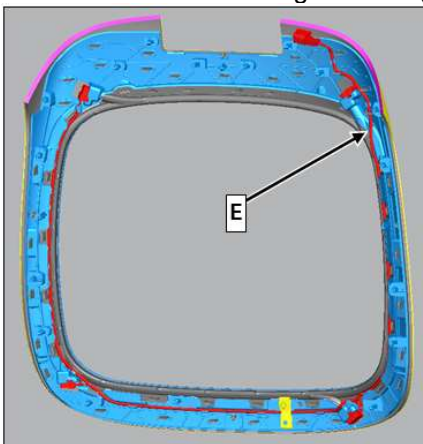

Figure 22
12. Install electrical wiring harness (E, figure 22) in new outer backrest mounting strip.